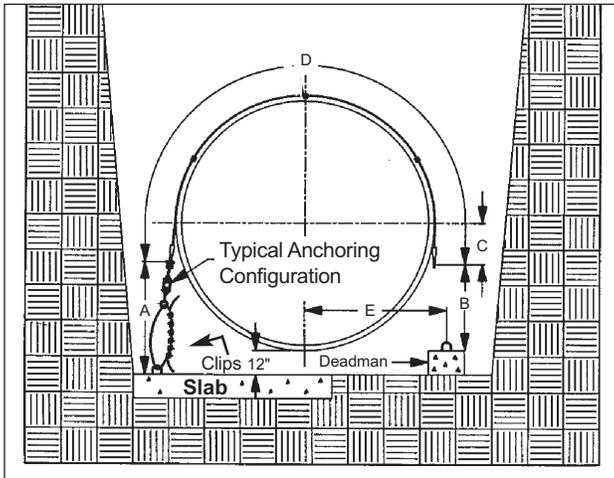

FIGURE 6-1
6.3.2. Placement of Xerxes prefabricated deadmen is the same as standard deadmen. (See FIGURE 6-1.)
6.4.5. Refer to TABLE 6-2 and FIGURE 6-1 for anchor-point dimensions.
6.4.8. When using a concrete base slab, allow sufficient depth in the excavation for 12 inches of bedding material below the tank. (See FIGURE 6-1.)
6.5.4. Data for hold-down straps are given in TABLE 6-2 and FIGURE 6-1.
6.6.4. Locate the anchor points as shown in TABLE 6-2 and FIGURE 6-1. Refer to dimension "E." Align (within a tolerance of ±1 inch) all anchor points with the marked arrowhead symbols  on the tanks.